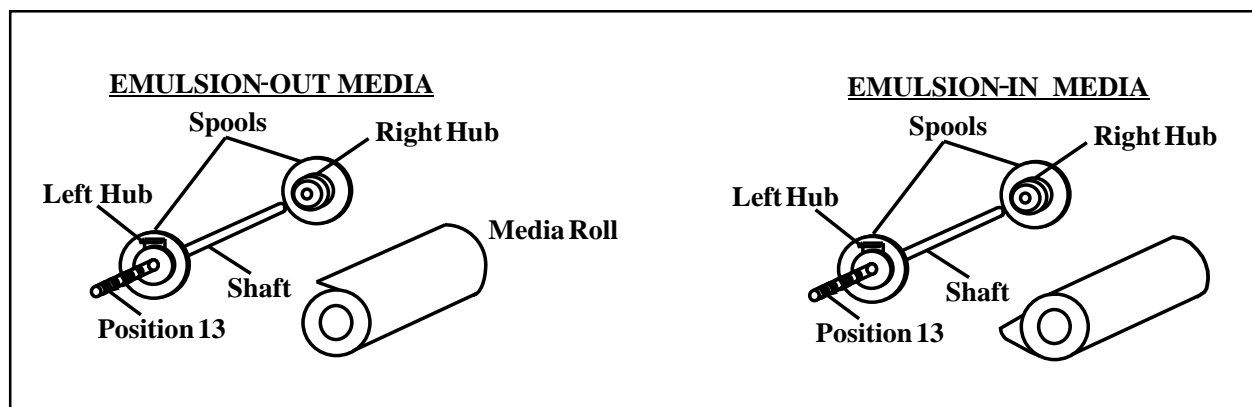

Figure I-2. Loading Plate Media on Spool
4. Adjust the left hub on the spool shaft to match the edge guide position by squeezing the clip and sliding on shaft. Remove the right hub from the shaft by lifting clip and sliding off the shaft. Slide media onto shaft. Slide the right hub onto shaft by lifting clip and pushing down on spool until spool is tight against media (see Figure I-2).